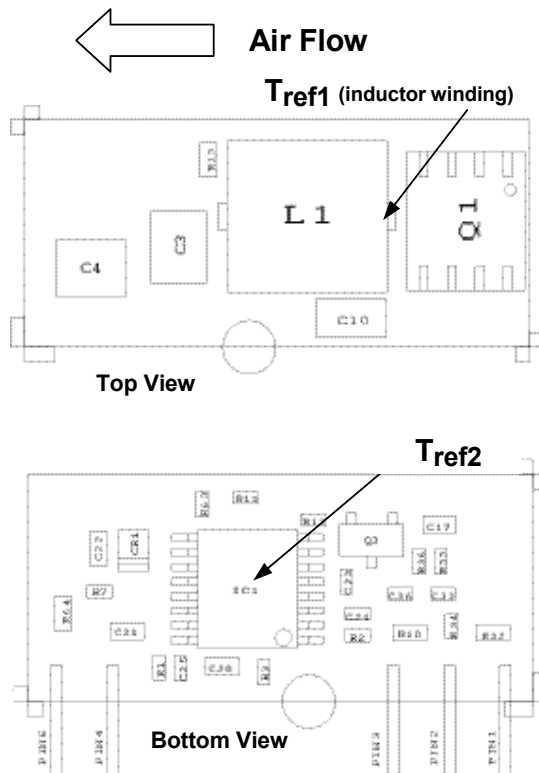
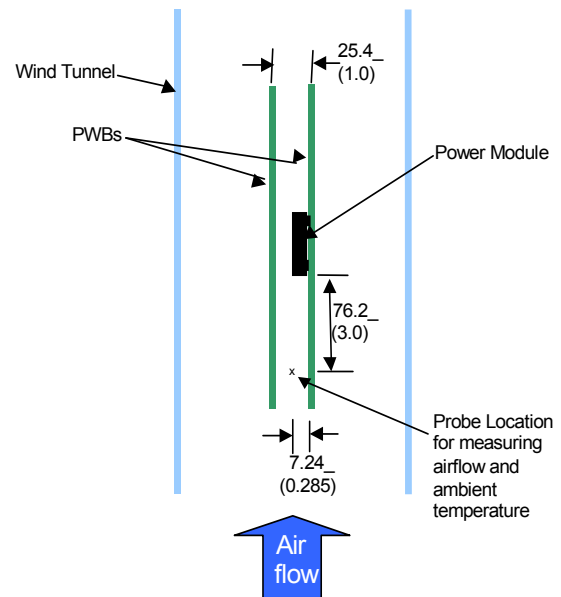

Figure 32.  $T_{ref}$  Temperature measurement location.
Figure 33. Thermal Test Set-up.
To provide over temperature protection in a fault condition, the unit relies upon the thermal protection feature of the controller IC. The unit will shutdown if the thermal reference point  $T_{ref2}$ , (see Figure 33) exceeds  $140^{\circ}C$  (typical), but the thermal shutdown is not intended as a guarantee that the unit will survive temperatures beyond its rating. The module will automatically restarts after it cools down.
Considerations include ambient temperature, airflow, module power dissipation, and the need for increased reliability. A reduction in the operating temperature of the module will result in an increase in reliability. The thermal data presented here is based on physical measurements taken in a wind tunnel. The test set-up is shown in Figure 33. Note that the airflow is parallel to the long axis of the module as shown in Figure 32. The derating data applies to airflow in either direction of the module's long axis.
The thermal reference point,  $T_{ref1}$  used in the specifications of thermal derating curves is shown in Figure 32. For reliable operation this temperature should not exceed 125°C.